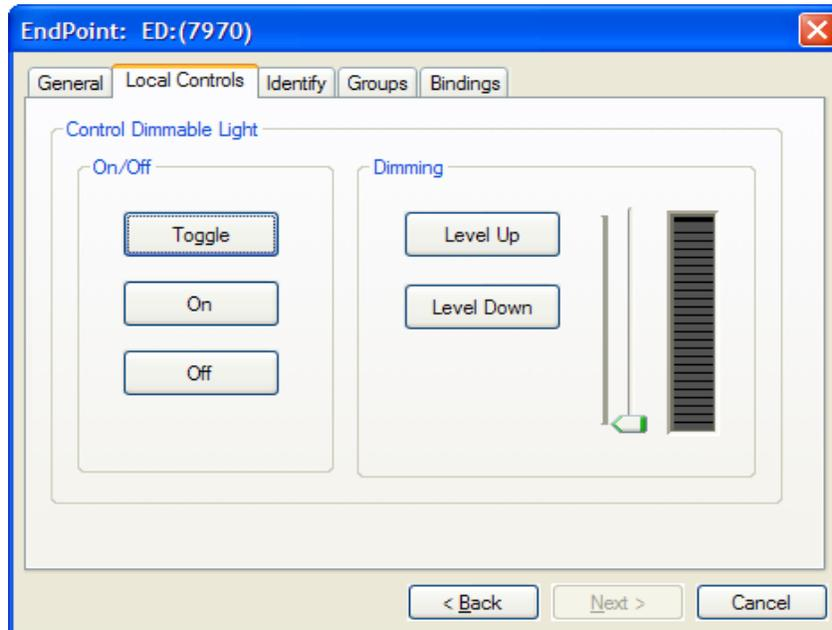

Figure 4-20. Dimmable Light Local Controls
4. Go to the “Local Controls” Tab. The tab is shown in Figure 4-20.